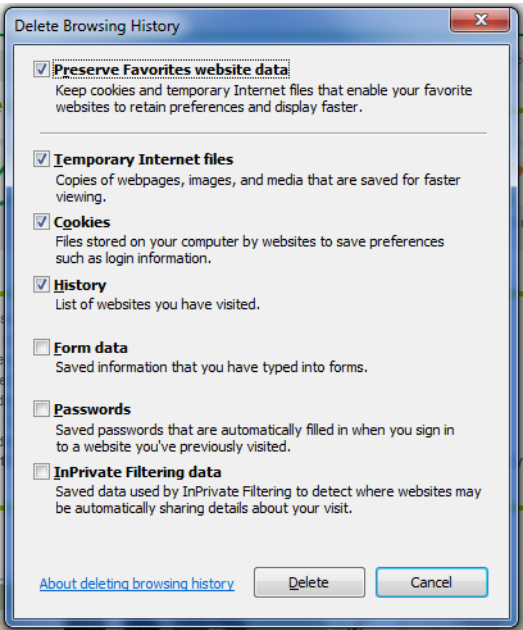
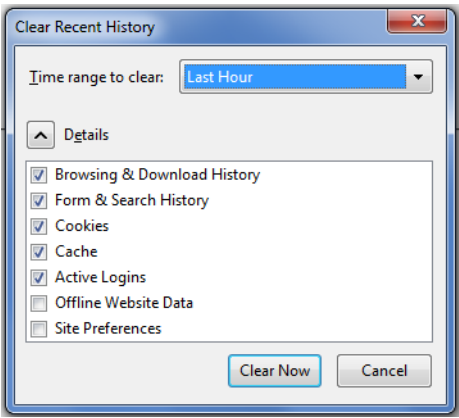

Figure 3-2 Internet Explorer Delete Browsing History
Figure 3-3 Firefox Clear Recent History
2. In the dialog box that opens (varies for each web browser), select an option to clear temporary Internet files or “cache”. See examples in Figure 3-2 and Figure 3-3 on page 3-40.